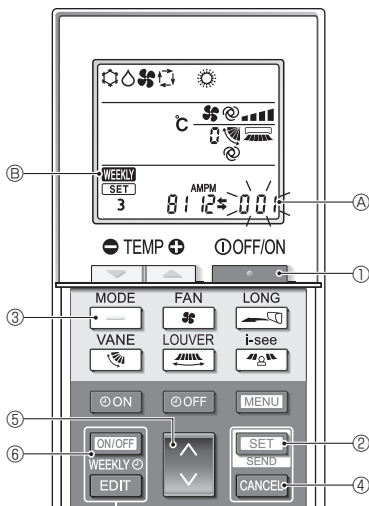

Fig. 6-7
- Press the **MENU** button ②.
6.8.8. How to disable Auto mode operation (Fig. 6-7)
1. Press the **OFF/ON** button ① to stop the air conditioner.
- If the weekly timer is enabled, press the **ON/OFF WEEKLY** button ⑥ to disable the timer. (**WEEKLY** ⑥ disappears.)
2. Press the **SET** button ② for 5 seconds.
- The unit enters the function setting mode. (The group model setting number ① blinks.)
3. Press the **UP** button ④.
4. Completing the settings (Fig. 6-7)
- Press the **SET** button ② for 5 seconds.